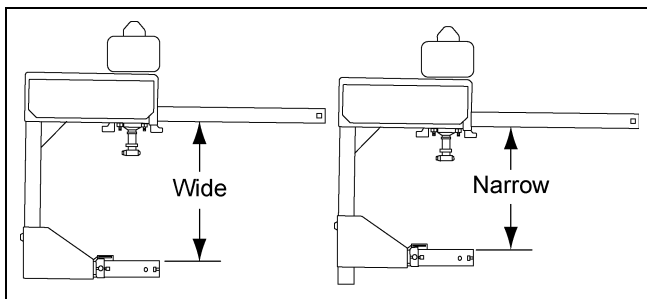

Figure 2
1. **Conversion Assembly:** Be sure the correct size pulley was ordered. To install it, remove the junction box covers and remove the 5/16" bolt. Slide the center drive arm out of the swivel and remove the upper snap ring and one washer. Slide the pulley onto the shaft with the hub up, then replace the washer and snap ring. (See Chart on Page 4.) Carefully slide the shaft up through the swivel so the wires are not pinched or nicked inside the swivel. Secure with the 5/16" hardware. Check the distance between the pivot tube and center of the drive pulley. Adjust it if needed by removing the two bolts in the rectangular tube. (See Chart on Page 4 and See Figure 2 to determine narrow or wide spacing.) Measure the inboard frame pivot, if it is 6" long, bolt the pivot stop in the back hole. If it is 4" long, bolt the pivot stop in the front hole, and cut off 1-1/4" of the pivot tube, leaving about 3/8" past the inside small hole for the cotter pin. (See Figure 3.)